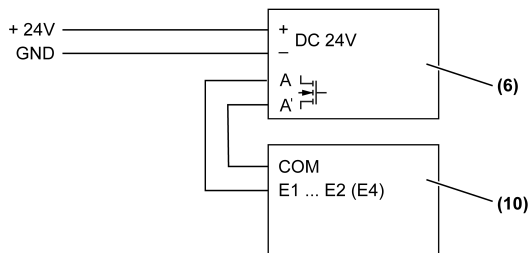

Figure 8: Connection to Push-button interface, 2-gang, Push-button interface, 4-gang
| (Figure 8) | (10) Push-button interface, 2-gang, Art. no.: 2076-2T, Push-button interface, 4-gang, Art. No2076-4T.: |